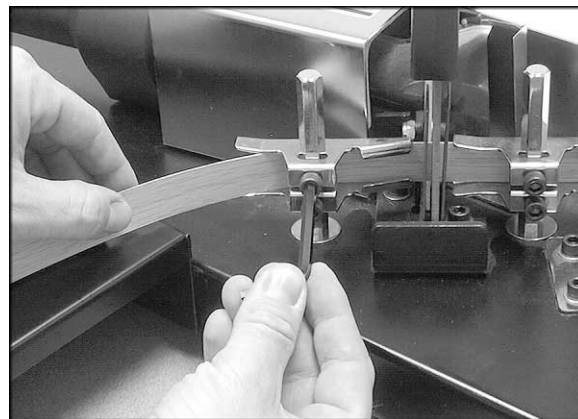

Figure 9
3. Slide the leading end of the banding material through the guides, and adjust the upper guides to the width of the banding material. See Figure 9. NOTE: The banding material must move freely through the guides.